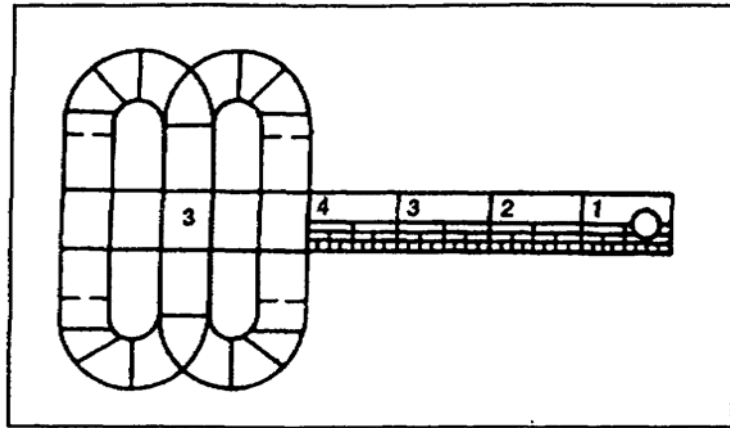

Figure 3-48. Stencil key set
e. **Stencil Key Set.** The stencil key set is used as a guide for laying out and drawing letters or numbers on stencil boards. A 3-inch stencil key set is shown in Figure 3-48, page 3-44. To use the stencil key set, first mark off a horizontal line on the stencil board. Then use the key set to outline the desired numbers or letters, using either the inside or outside of the set. After all the letters or numbers have been outlined on the stencil board, simply cut them out with a sharp knife or a one-sided razor blade.